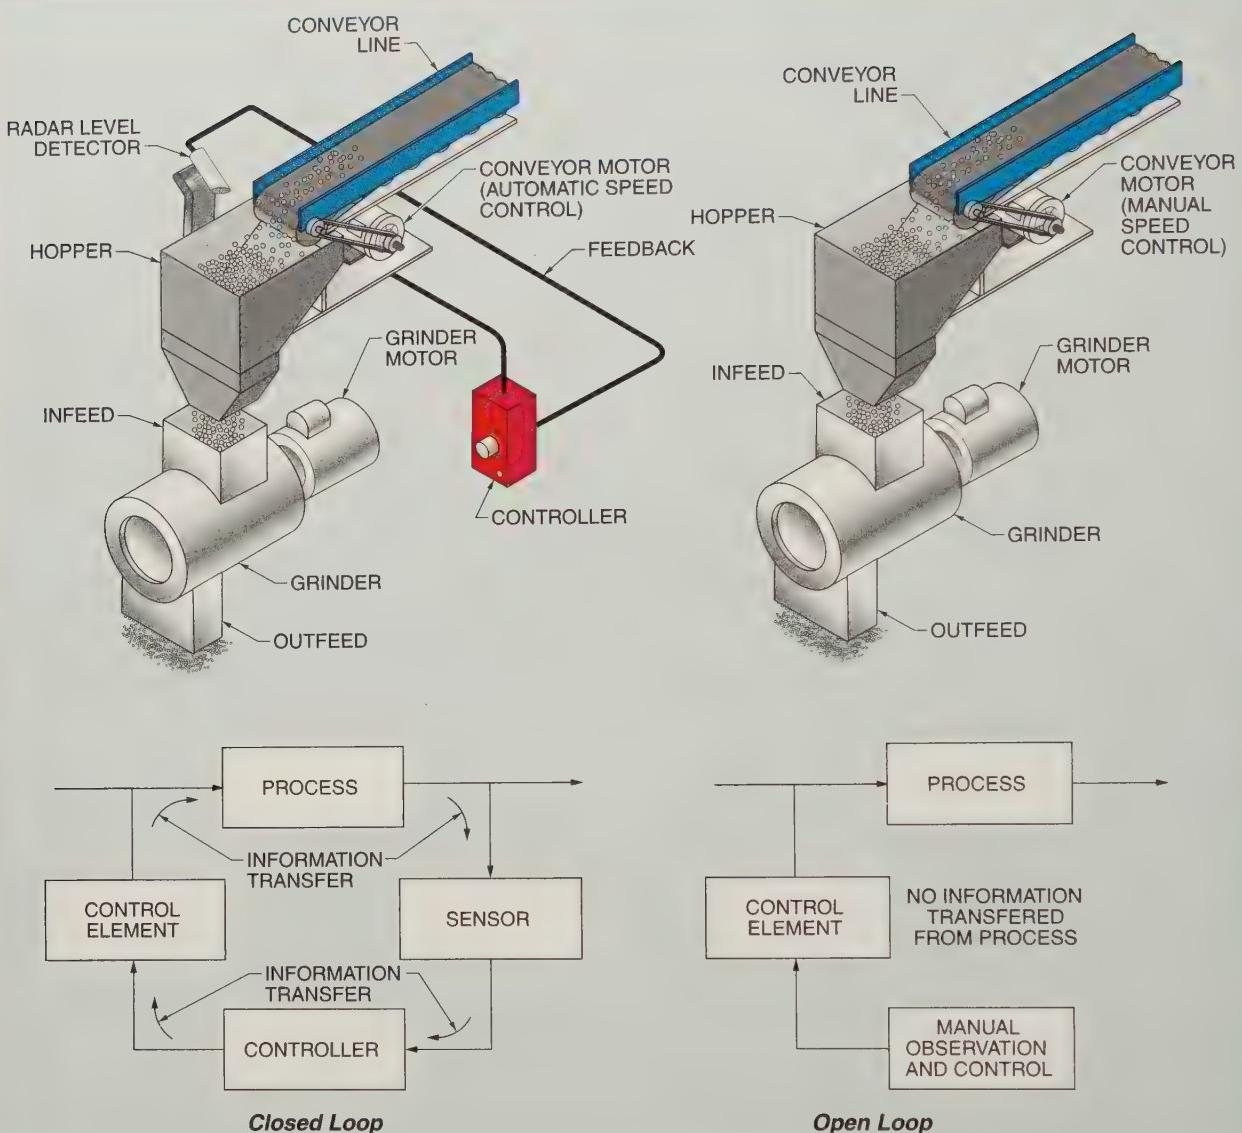

Figure 35-15. A closed loop is a loop in which a controller automatically controls a process, and an open loop is a loop in which there is no automatic control.
For example, a conveyor fills a hopper above a grinder with process material that must be properly sized. See Figure 35-15. The hopper has a level controller. If the hopper starts to fill faster than the grinder takes away the material, the level in the hopper rises. As the level rises, the controller detects the increase in level (PV). The level controller adjusts its output signal to a variable speed drive (CV) to slow down the conveyor feeding the hopper. If the hopper level drops, the level controller adjusts its output signal to speed up the conveyor. The controller continuously adjusts the speed of the conveyor to maintain the level at the desired point.